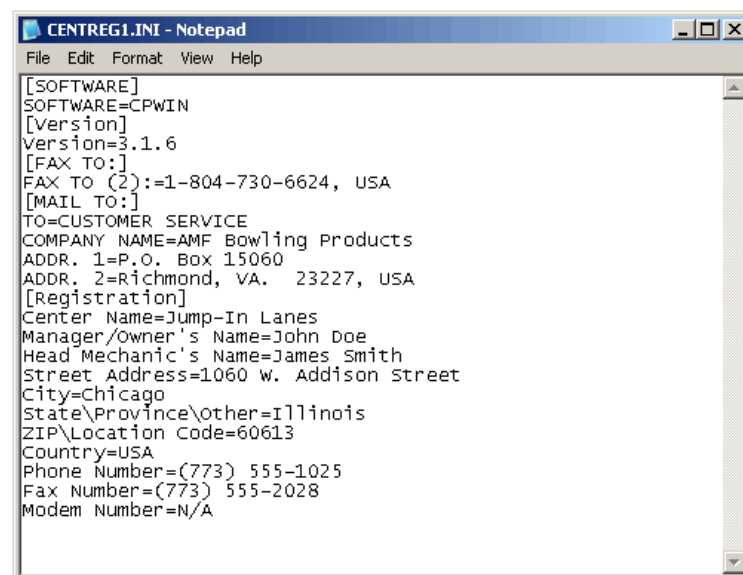

Figure 1-19
18. **Figure 1-19** shows an example of the registration information that comes up on the screen after clicking the <**Finish**> button mentioned in step 17. Please print out your file that opens up so you can fax it or sent it through the mail to AMF (If you do not have a printer installed on the computer, save the file to a floppy disk and print it from one that does).